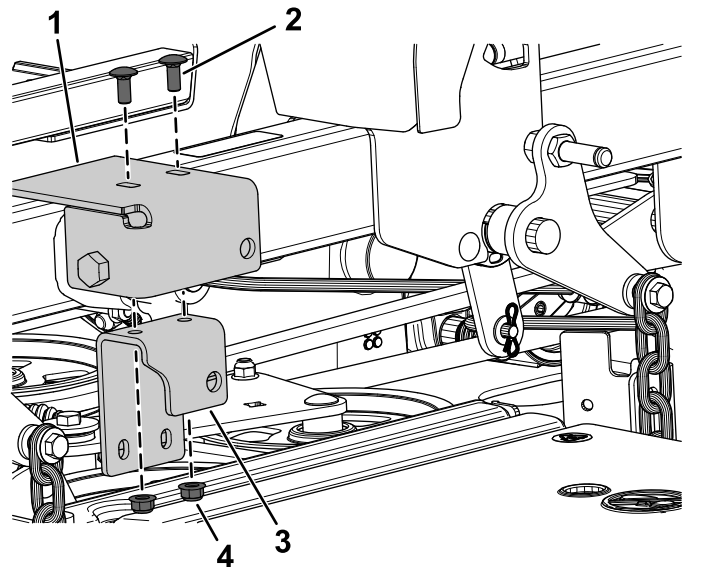

Figure 11
3. Loosely secure the inner actuator bracket to the outer actuator bracket using 2 carriage bolts (5/16 x 3/4 inch) and 2 locknuts (5/16 inch) as shown in Figure 11.